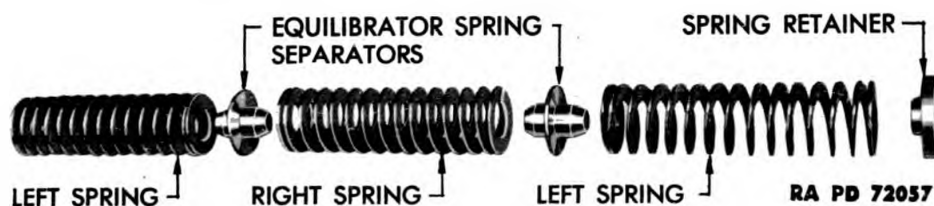
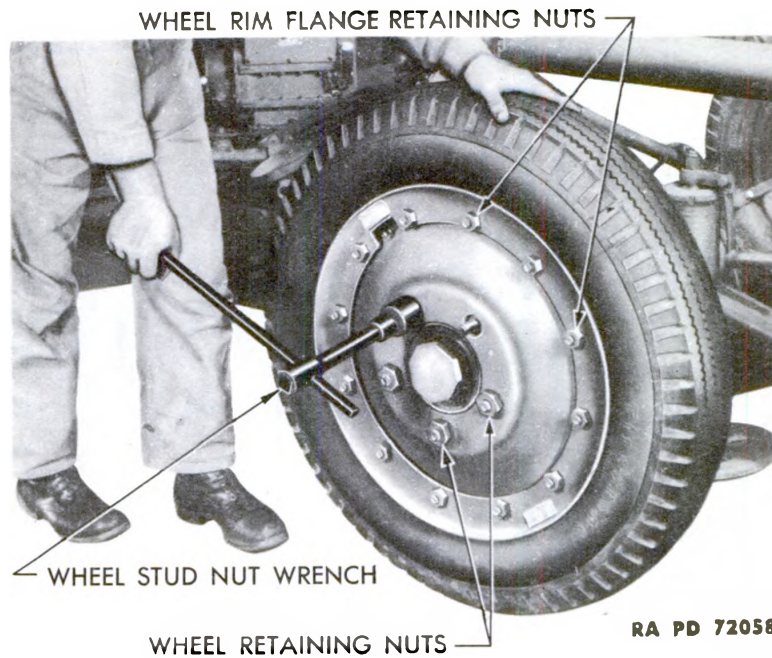

Figure 155 – Equilibrator Springs, Separators, and Retainer
Figure 156 – Wheels – Removal
(2) Place the equilibrator springs, separators, and retainer on the threaded shaft of the compressor and the equilibrator spring rod in the following order: one left spring; one separator; one right spring; one separator; one left spring; one retainer (fig. 155).
(3) Screw on the compressor handle and compress the springs sufficiently to permit the U-bar to be installed. Remove the compressor. Screw on the equilibrator rod bushing nut. Remove the U-bar.
(4) After both equilibrators have been assembled to this point, test the amount of effort required to elevate and depress the gun. If the effort to depress the gun is more than that required to elevate, turn out the bushing nut; if the effort to elevate is more than that to depress the gun, turn in the bushing nut. Adjust both assemblies exactly alike.
(5) When the adjustment is completed, lock both bushing nuts in position with the equilibrator rod jam nuts. Close end covers.
a. Wheel Removal. Lift the wheels clear of the ground by raising the carriage with the leveling jacks. Remove the wheel retaining nuts with the wheel stud nut wrench (fig. 156). Wheels on the right side of the carriage have right-hand thread studs and nuts; wheels on the left side have left-hand thread studs and nuts. Remove the wheel and tire assembly.